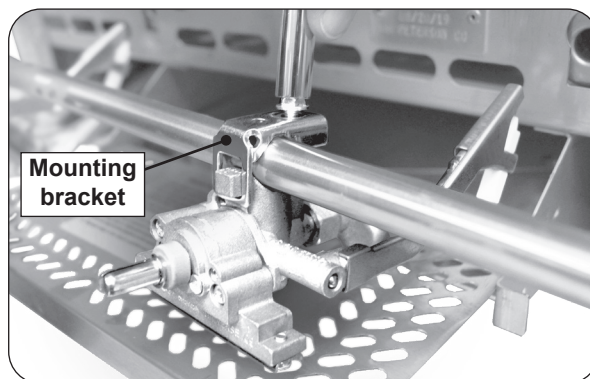

Fig. 2-3 Secure new valve to manifold
10. Secure the valve using the included mounting bracket and screw using a 5/16" hex nut driver (see Fig. 2-3).